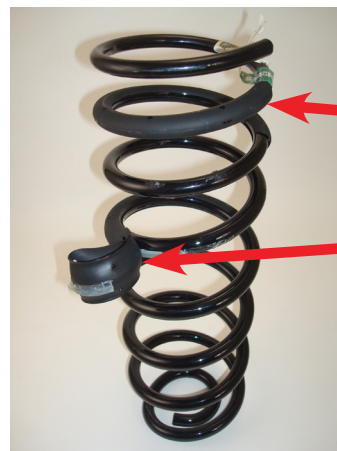

*fig. 4*
- Lift the vehicle up and support the frame with safety stands. Leave enough room to drop the axle down low enough to remove the coil springs (Fig. 4).